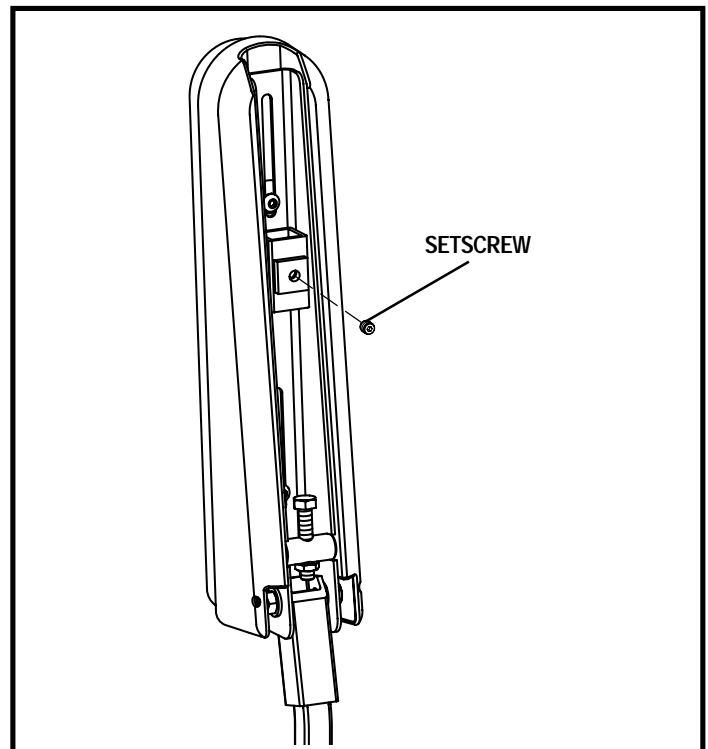

Figure 19. Underside of Armrest
**NOTE:** For contour seats, loosen the setscrew on the underside of both armrests, transfer the controller, and tighten the setscrews. See figure 19.